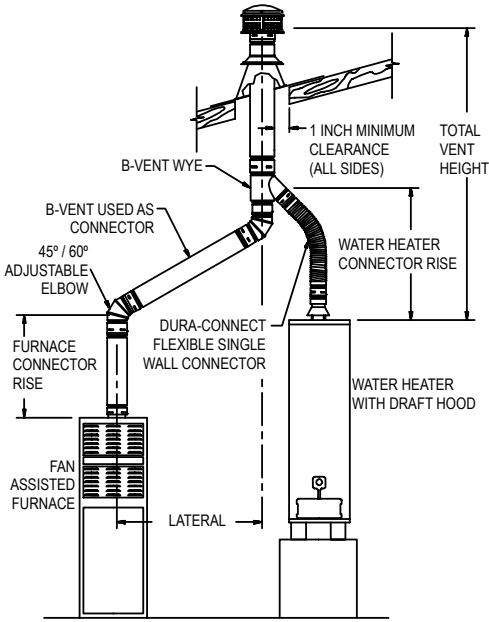

**Figure 2**
**8. Tees and Wyes.** Tees and Wyes are used to combine connectors from 2 or more appliances into a common vent as shown in **Figures 2 and 3**. A Tee should be used in a through-the-wall application, (**Figure 11**), as they have a removable Tee Cap (available as a separate item) attached to the bottom. This Tee Cap may be removed in order to inspect the system, or to clean out debris or collected condensate from the common vent. Wall Straps should be used to support the vertical pipe as needed to provide a secure installation. Wall Straps every four feet are required.